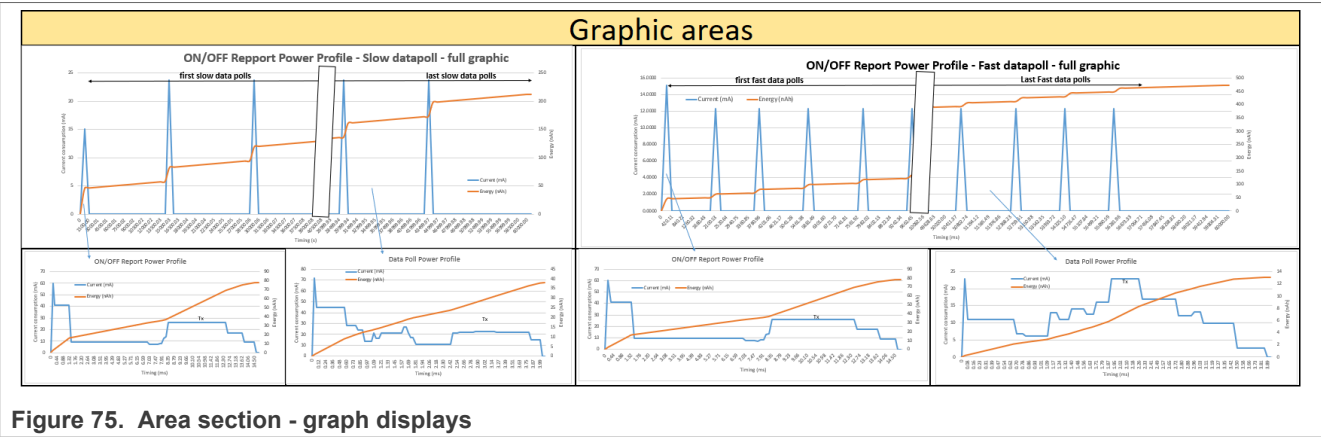

Figure 75. Area section - graph displays
- Full ON/OFF report including fast data poll, see Figure 75, right-side graph.
- Full ON/OFF report including slow data poll, see Figure 75, left-side graph.